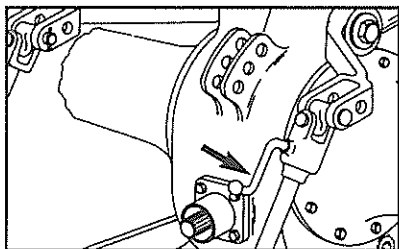

FIG. 8 - LEVELING "CRANK" ON LIFTING LINK
- (a) Raise the auger point off the ground. Turn the adjusting screw or leveling crank on the lifting link (refer to Figure. 8) until the auger appears vertical, looking from the tractor seat.